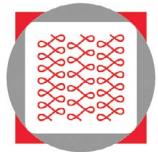

Figure 8
- Path strategies and patterns include: morph, spiral, parallel, sinusoidal, trochoidal, triangular, and figure 8